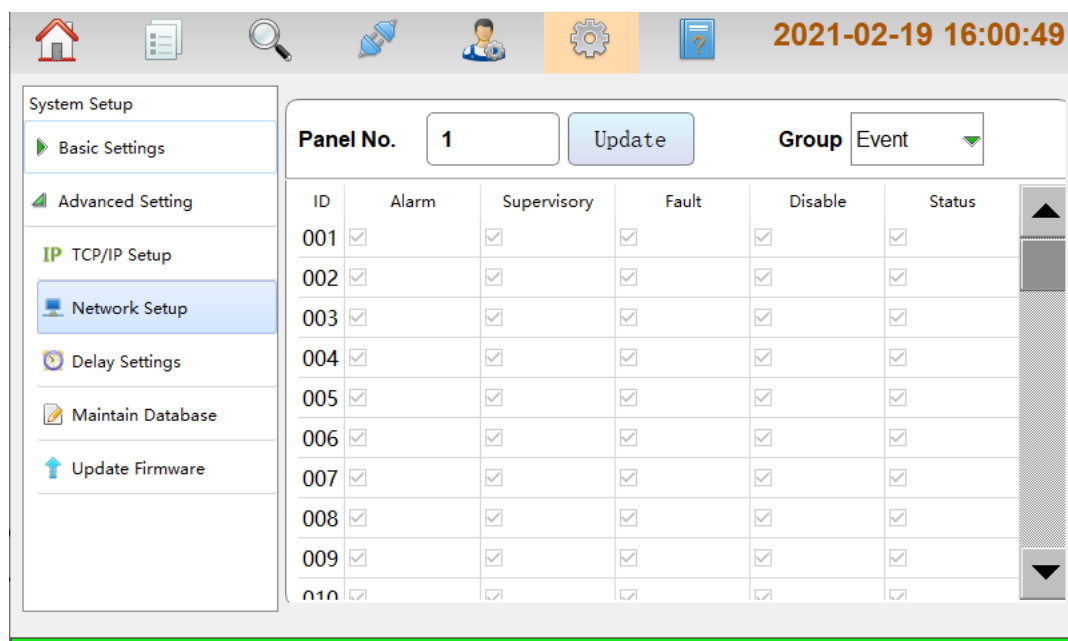

Fig. 5-7
- Network Setup: clicking **Network Setup** in **Advanced Setting** menu pops up the screen for setting the network on the right. Users can set up based on actual situation. Refer to the figure below Fig.5-7.